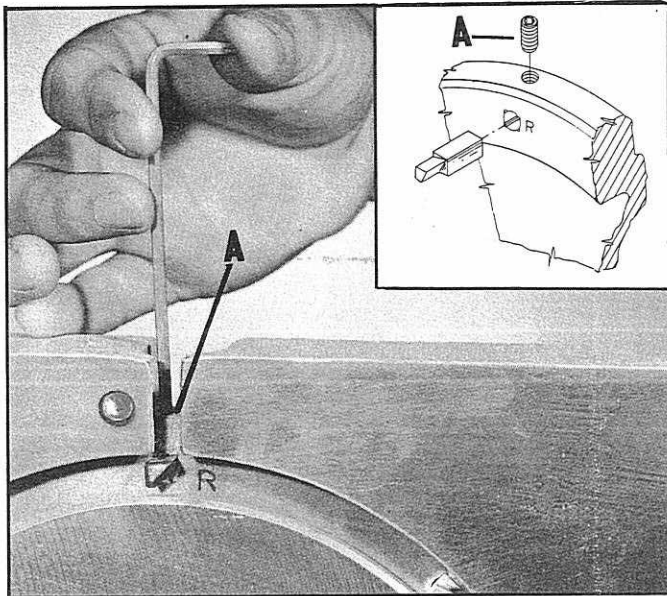

Fig. 22.
3. Insert a roughing cutter in one of the holes in the cutterhead marked "R", as shown in Fig. 22. The line drawing in Fig. 22 illustrates the correct position for inserting the roughing cutter into the cutterhead. NOTE: Make sure the cutter is not set out past the face of the center fence at this time and snug up set screw (A) Fig. 22. Insert the three remaining roughing cutters in the holes in the cutterhead marked "R" in the same manner as outlined above.